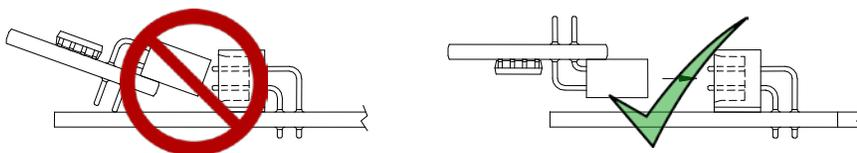

Figure 7. License Key Installation
6. Press the license key into the terminal until it is firmly seated (refer to *Figure 7*).